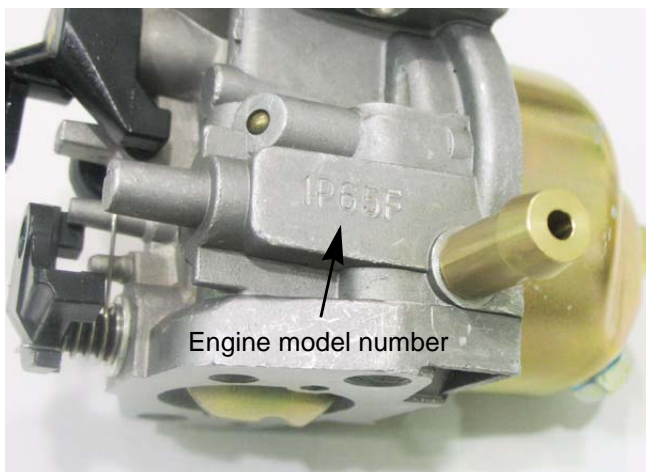

Figure 3.15
**NOTE:** The carburetors are not inter-changeable from one engine model to another. To help prevent carburetor mix-ups, the engine model number is stamped on the carburetor by the fuel nipple. See Figure 3.15.